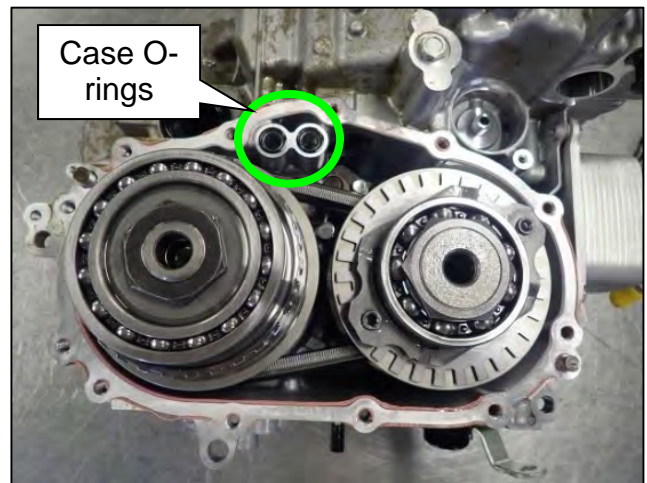

Figure 100
76. Remove the two (2) case O-rings (Figure 100).